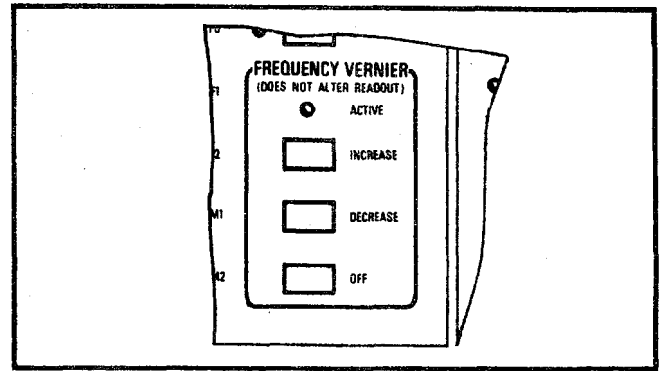

Figure 3-12. FREQUENCY VERNIER Controls
- c. **FREQUENCY VERNIER Pushbuttons** (Figure 3-12). These pushbuttons may be used to make fine adjustments to (1) output frequency in the selected CW mode or (2) center frequency in the selected ΔF mode. The frequency resolution achievable using these pushbuttons is ± 100 kHz for all models except the 6642A, 6653A, and 6659A. For these three models, resolution is ± 200 kHz. Individual pushbuttons are described below.